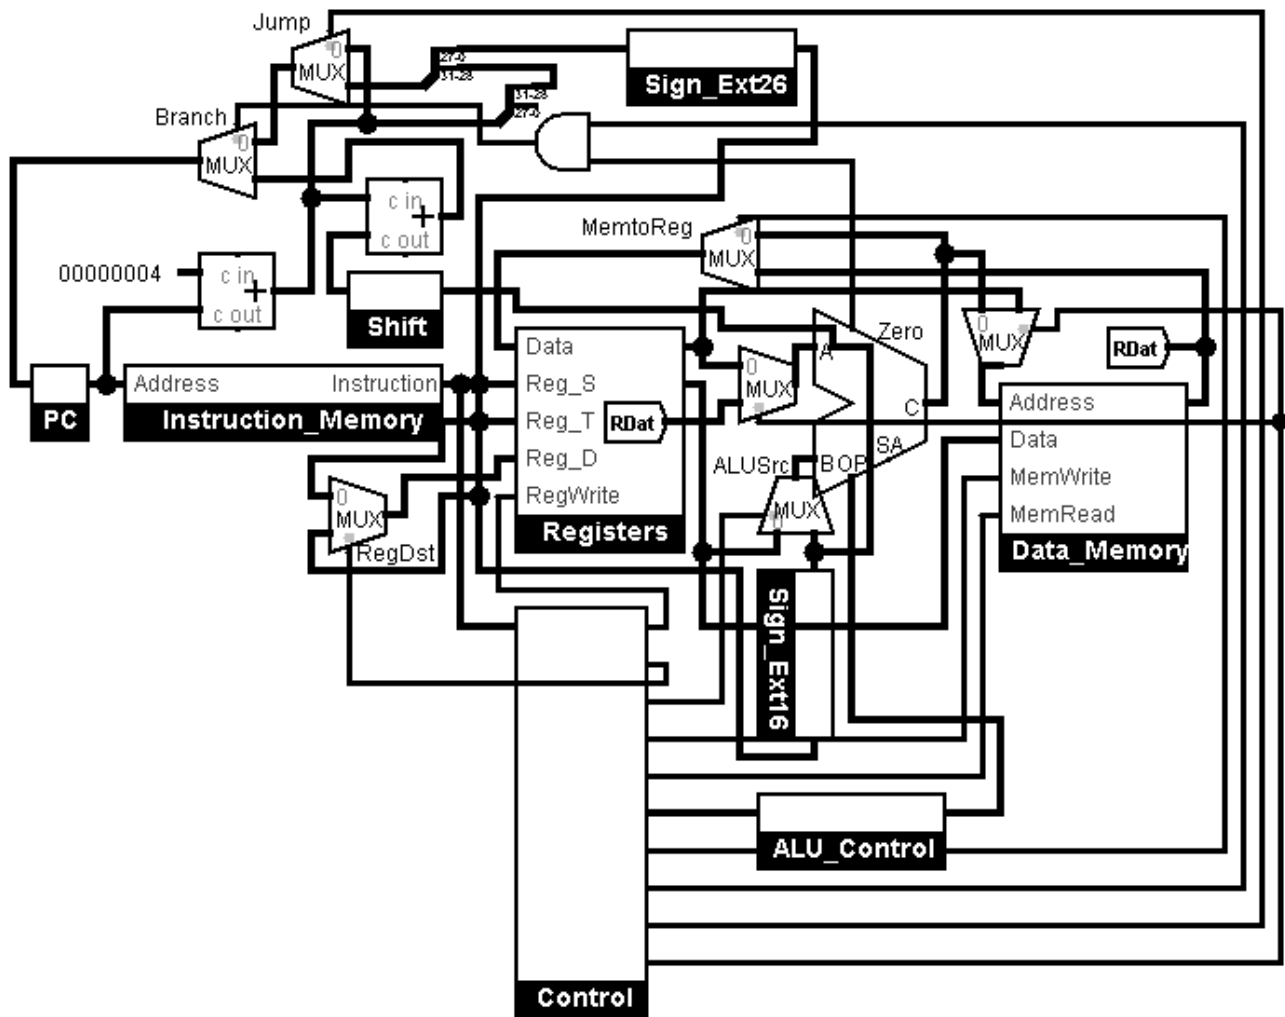

Figure 8: `law` Full Implementation
- thus we need a new signal `LawC` to control two new MUXed modifications as seen in Figure 8: